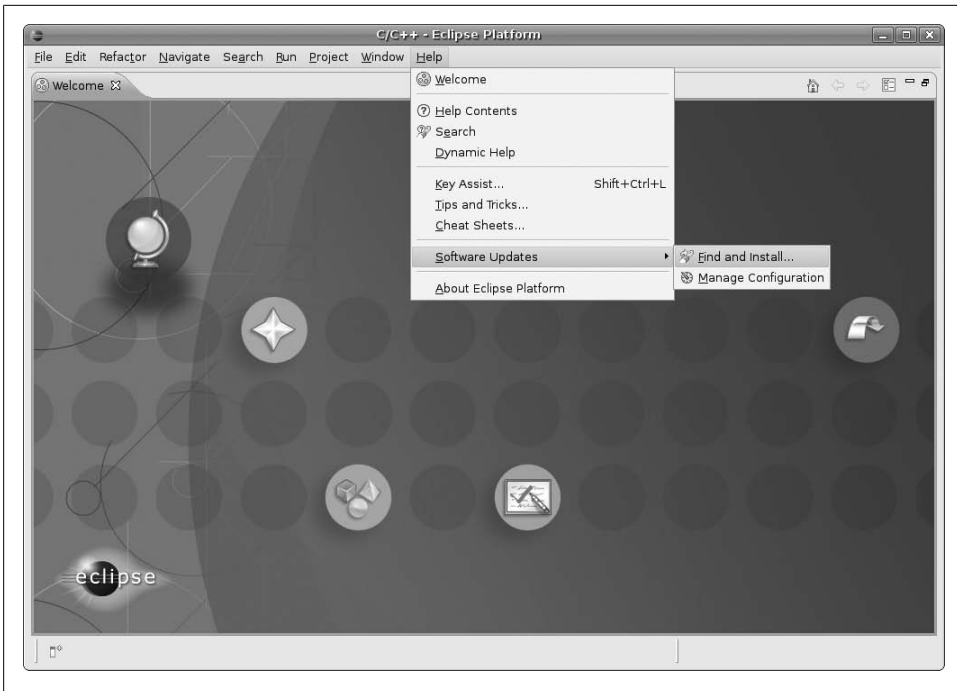

Figure 4-7. Eclipse Software Updates menu
1. From the Help menu, choose the Software Updates entry (Figure 4-7).